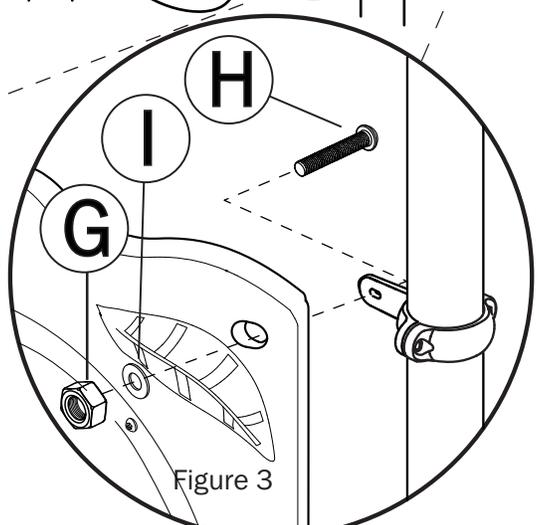

Figure 3
3. Close Clamp(B) around Upright. Insert Bolts(H) into Clamp(B) and tighten with Lock Nuts(F). See Figure 3.
4. From back LEFT side of Slide Hood(A), place flat side of 90° Clamp(C) against Slide Hood(A). Insert Bolt(G) into slot of 90° Clamp(C), through hole in Slide Hood(A) and secure with Flat Washer(E) and Lock Nut (F).
5. Close 90° Clamp(C) around Upright. Insert Bolt(H) into Clamp(B) and tighten with Lock Nut(F). See Figure 3.
- Align holes in Panel Clamp(B) with holes in Window Panel(A). Insert Bolt(H) into Panel Clamp(B), through Window Panel(A) and secure with Flat Washer(I) and Lock Nut(G). Repeat for 90° Clamp. See Figure 3.
- Tighten Clamp(B) bolts securely.